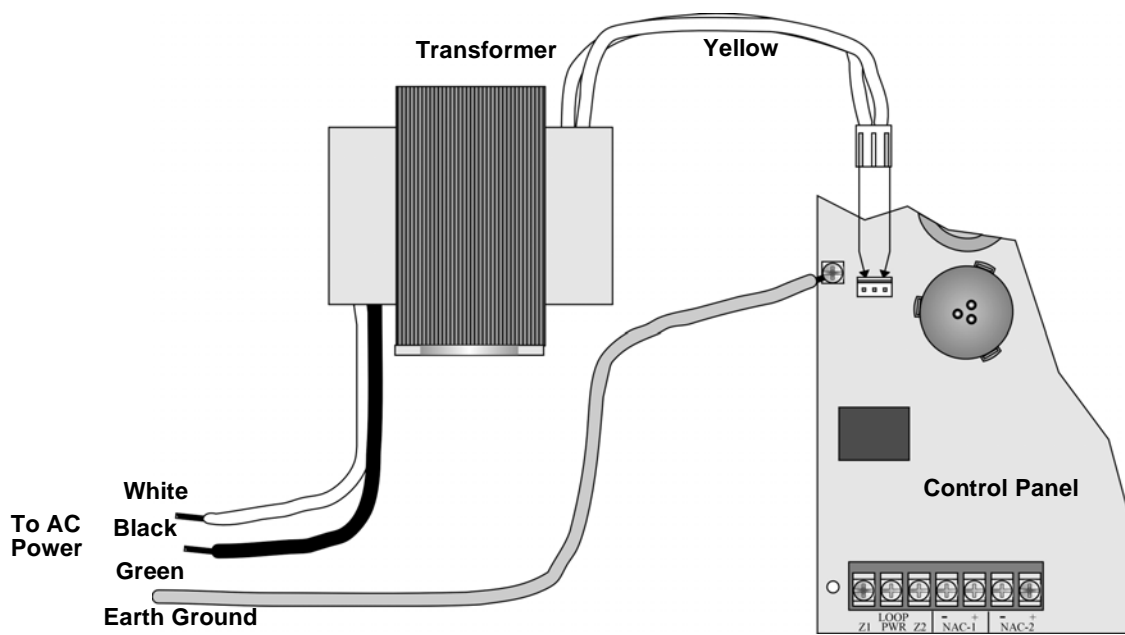

Figure 4-1 AC Power Connection
At installation, connect the transformer AC inputs to the AC power source as shown in Figure 4-1. It may be necessary for a professional electrician to make this connection.
1. Unplug the AC power connector from the SK-2224 control panel. See Figure 4-1.
4. Reconnect the AC power connector to the control panel. See Figure 4-1.